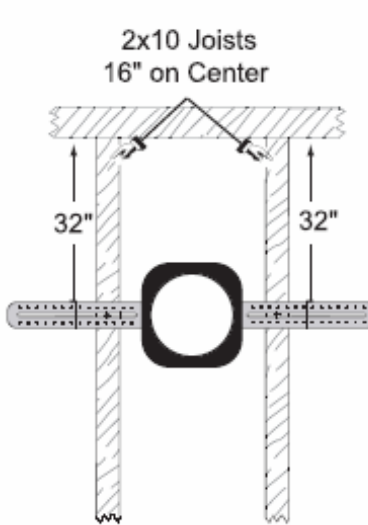

Figure 3
NOTE: Please have dry-wall screws and or nails/staples handy for installation. Figures 3 – 7 are on page 2.
- Adjust the bracket so that the other side aligns with the other marking and install a screw through the speaker brackets adjustment channel. (See Figure 3)